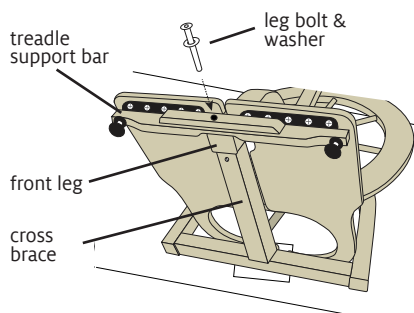

FIGURE 7: ATTACH THE FRONT LEG BOLT
**10.** Insert the front leg bolt through the metal washer, then into holes in the treadle support bar, the front leg, and the cross brace (Figure 7). Using the 4 mm hex wrench, fasten the leg bolt loosely.